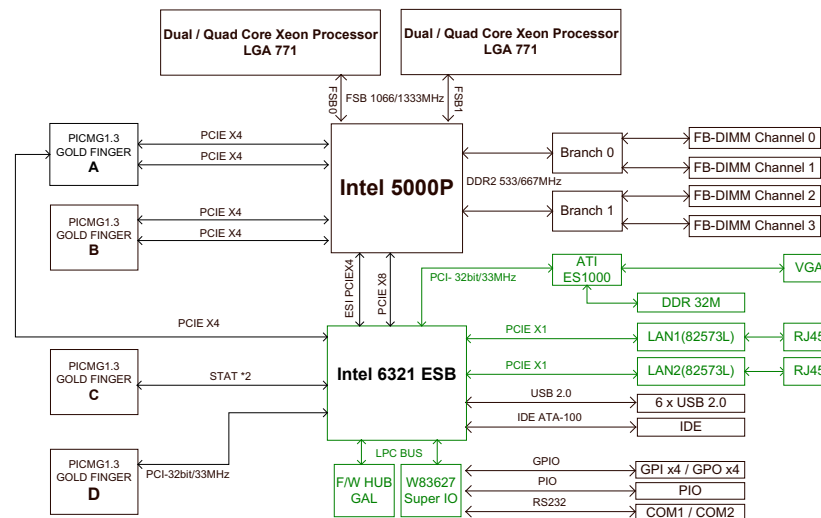

Figure 1.1: Block Diagram of PEAK 8920VL2
- Figure 1.1: Block Diagram of PEAK 8920VL210